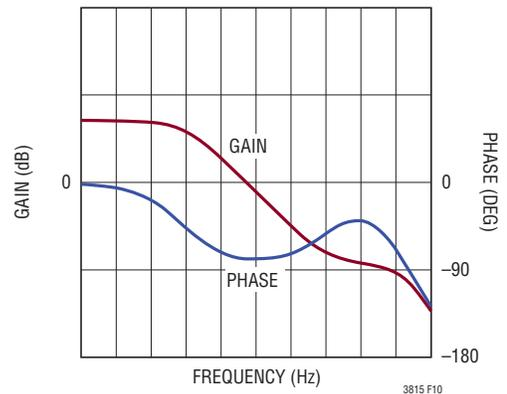

Figure 10. Transfer Function of Buck Modulator
be modeled as an ideal op amp (for crossover frequencies  $< 200\text{kHz}$ ) and the inductor as a voltage controlled current source. The gain/phase plot should look similar to Figure 10.
2. If a longer soft-start period is desired, it can be set externally with a capacitor on the TRACK/SS pin as shown in Figure 10. The TRACK/SS pin reduces the value of the internal reference at FB until TRACK/SS charges above the REF pin voltage. The external soft-start duration can be calculated by using the following formula: